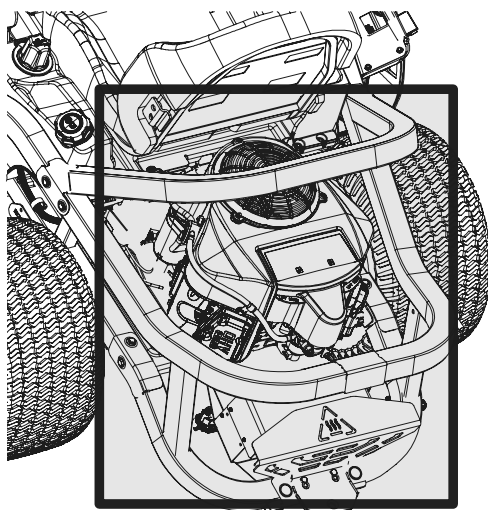

Figure 31
- Keep both sides of transmission cooling slots, exhaust manifold, around fuses, all wiring and harnesses, muffler pipe, muffler shield, engine intake screens and cooling fins, etc. clear of grass clippings and leaves (Figure 31).